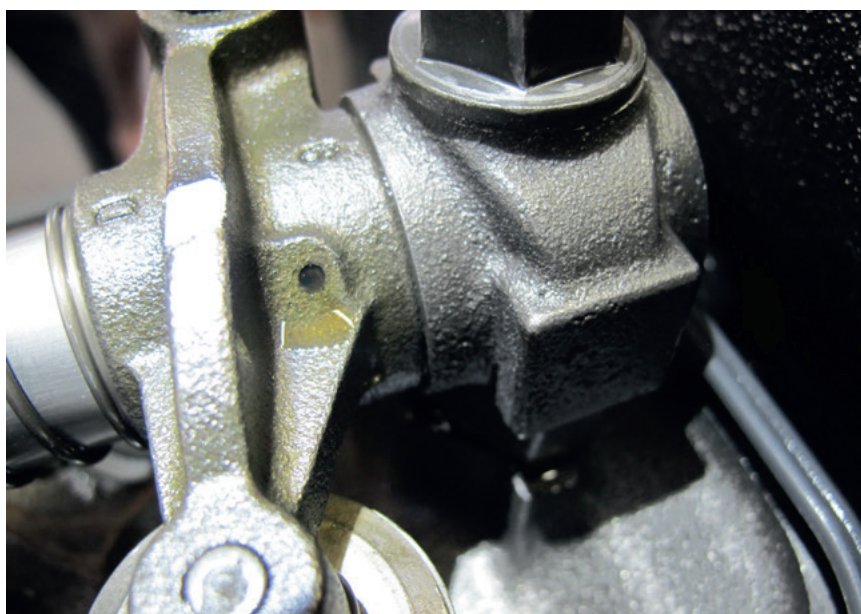

Fig. 3
2. Oil is now pumped into the engine until oil escapes from the oil lubricating points furthest away from the oil pump. These points are usually the rocker arm bearings (Fig. 3) or the bearing positions of camshafts at the top. The maximum permitted oil pressure in engine operation must not be exceeded. During the pressure oil filling, the engine should be turned by hand in the direction of rotation.